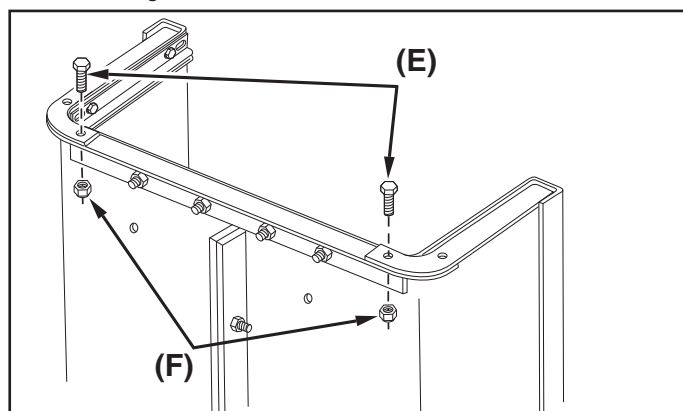

FIGURE 4
STEP 4: (SEE FIGURE 4)
- Attach the rear angles (2 & 3) to the lower rear angle (4) using two 1/4" X 3/4" hex bolts (E) and 1/4" nylock nuts (F).